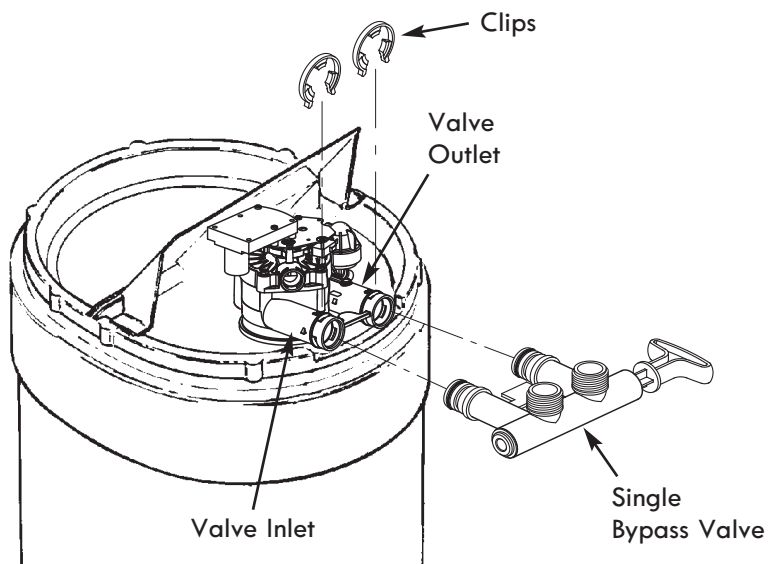
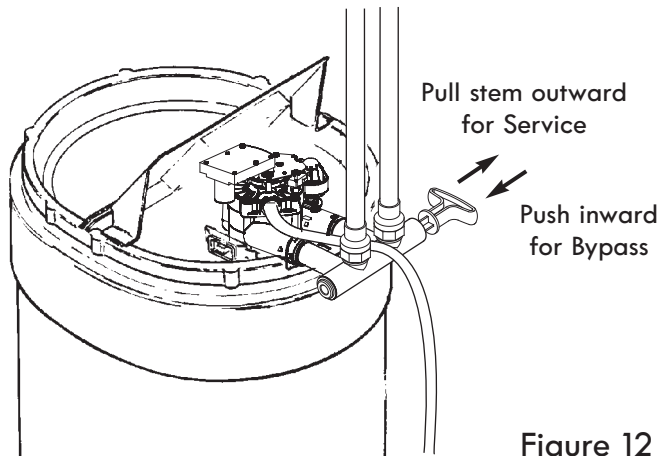
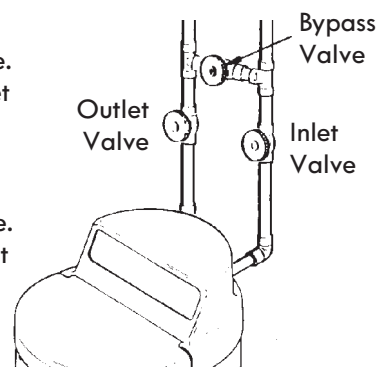

Figure 6
Figure 12
Figure 13
5. Visually check and remove any foreign materials from the valve inlet and outlet ports (see Fig. 6). Carefully remove the two large plastic clips (you will use them). Check to be sure the turbine and support are firmly in place (see Fig. 7).
NOTE: Always install either a single bypass valve (provided), as shown in Figure 6, or, if desired, parts for a 3 valve bypass system (not included) can be purchased and assembled, as shown in Figure 13.
2. Place bypass valve(s) in "bypass" position (see Figures 12 & 13). On a single valve, slide the stem inward to bypass. On a 3-valve bypass, close the inlet and outlet valves and open the bypass valve.
If you installed a 3-valve bypass system (Fig. 13), electrical continuity will be maintained. If you installed the non-metallic bypass valve (Fig. 12), restore the ground as follows: